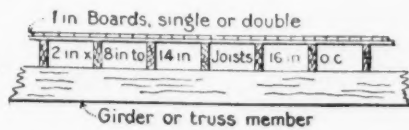

Fig. 1. Undesirable Construction
3. Floors are best made of spruce plank 4 inches or more in thickness according to the floor loads, spiked directly to the floor timbers and kept at least $\frac{1}{2}$ inch clear of the face of the brick walls. Figs. 1 and 2 show bad and good forms of floor construction. In floors and roof, the bays should be 8 to 10 $\frac{1}{2}$ feet wide and all plank two bays in length, laid to break joints every 4 feet and grooved for hard wood splines. Usually a top floor of birch or maple is laid at right angles to the planking, but the best mills have a double top floor,